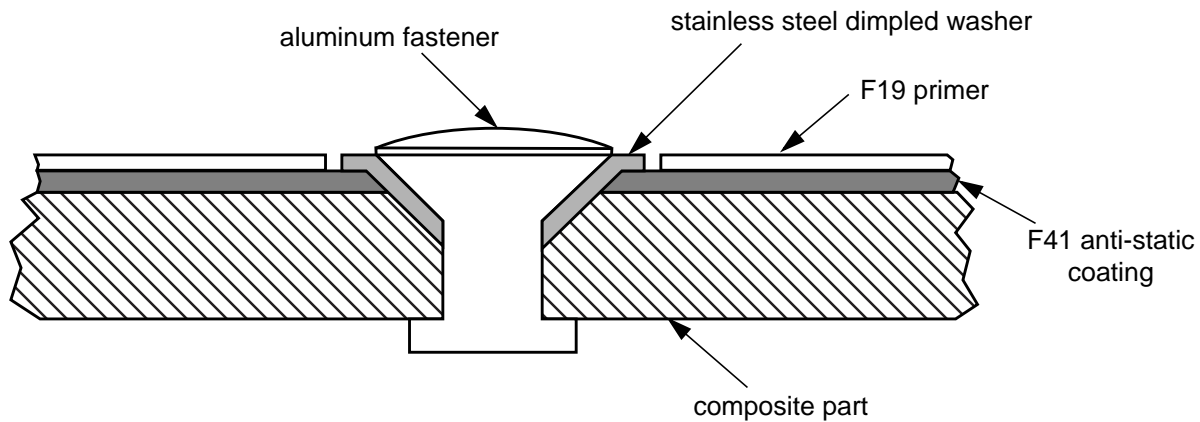

Figure 1 - Installation of Fastener and Stainless Steel Dimpled Washer
- 5.1.2 F41 coating is grounded to the aluminum substructure through a combination of stainless steel dimpled washers and aluminum fasteners as illustrated in Figure 1. Do not allow F41 to come into contact with aluminum fasteners or the aluminum substructure, as this will result in severe corrosion of the aluminum. Carbon-filled coatings and aluminum are incompatible when exposed to moisture.